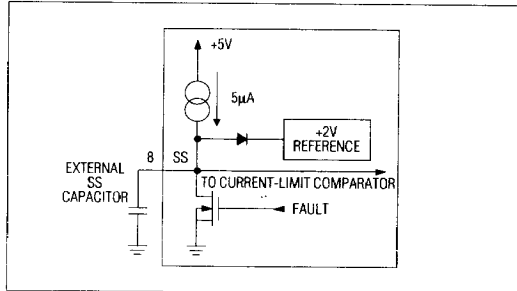

Figure 8. Soft-Start Equivalent Circuit
A capacitor connected between Soft-Start (SS) and ground limits surge currents at power-up. As shown under Typical Operating Characteristics, the peak switch current limit is a function of the voltage at SS. SS is internally connected to a  $5\mu A$  current source and is diode-clamped to 2.6V (Figure 8). Soft-start timing is therefore set by the SS capacitor value. As the SS voltage ramps up, peak inductor currents rise until they reach normal operating levels. Typical values for the SS capacitor, when it is required at all, are in the range of  $1\mu F$  to  $10\mu F$ .